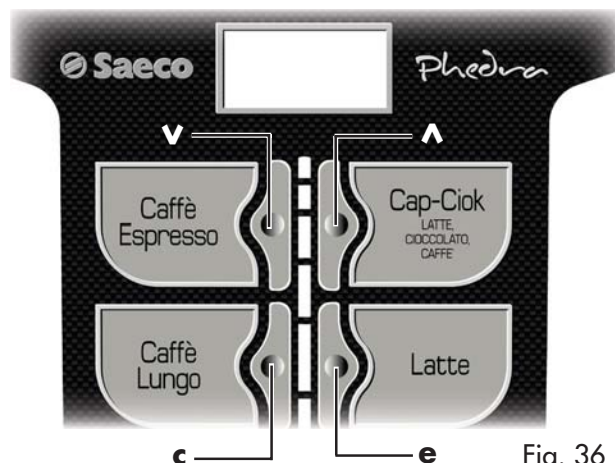

Fig. 36
- press the key "**e**" twice (Fig. 36) to eliminate the error (see sect. 8.3.3 Description of messages in the maintenance menu).
- press the "**e**" key (Fig. 36) followed by the "**UP**" key (Fig. 36) to access the RINSING entry;
- press the "**e**" key (Fig. 36) to carry out the automatic complete rinsing cycle.
"e" Key: ENTER (Fig. 36)
"c" Key: CANCEL (Fig. 36)
"v" Key: DOWN (Fig. 36)
"^" Key: UP (Fig. 36)